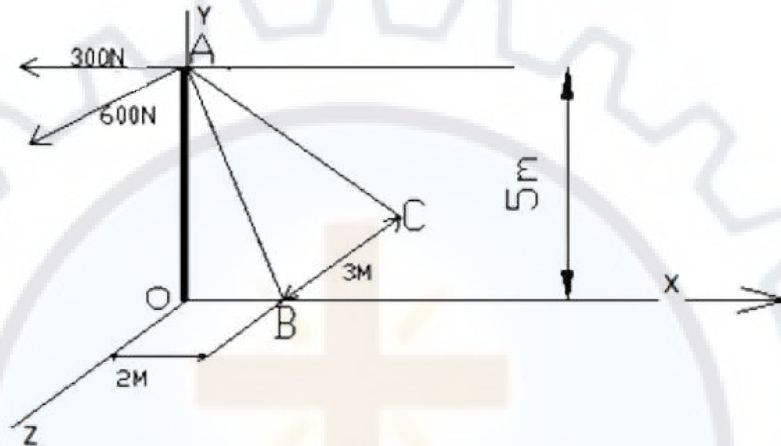

Figure 7
15. A pole AO as shown in Figure 7 is supported by a ball and socket joint at its base and by cables AB and AC. Also it is subjected to forces 300N towards the negative X direction and 600N towards the positive Z direction and the forces act in a plane parallel to XZ plane. Compute the forces in the cables. (14 Marks)